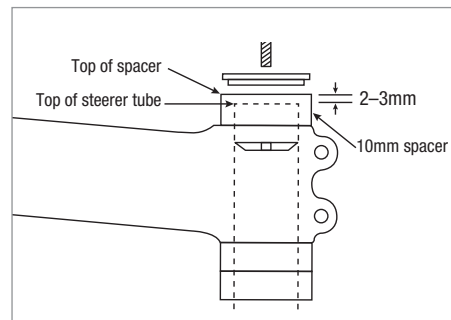

Figure 1
4. Always use a 10mm spacer above the stem. The top of the steerer should be 2–3mm below the top of the 10mm spacer (Fig. 1). If the steerer is too long with the desired amount of spacers installed, it must be cut and the headset star-nut or compression plug repositioned. If the steerer is too short, there won’t be enough clamping surface for the stem to be installed securely. Remove spacers to adhere to dimensions listed above. Do not use if the above dimensions cannot be met.